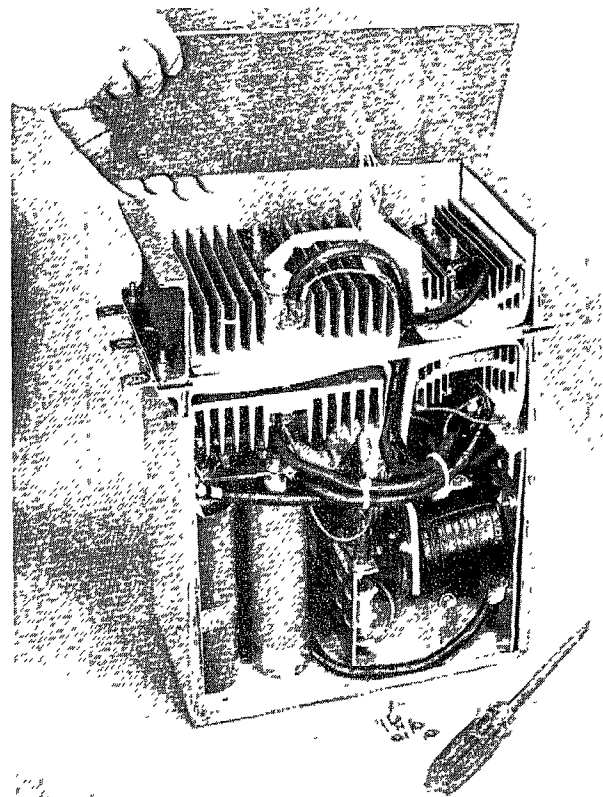

FIGURE 21
4. Remove four (4) machine screws and nuts that secure the front, red plastic insulation cover to the Inverter Phase Module.
6. Remove the two (2) clamp nuts that secure the defective SCR cell while supporting the bottom heatsink and clamp with one hand underneath the heatsink assembly.
10. The gate and cathode leads of the replacement SCR should be connected to the pulse transformer card per the inverter phase module elementary diagram. See Fig. 21.